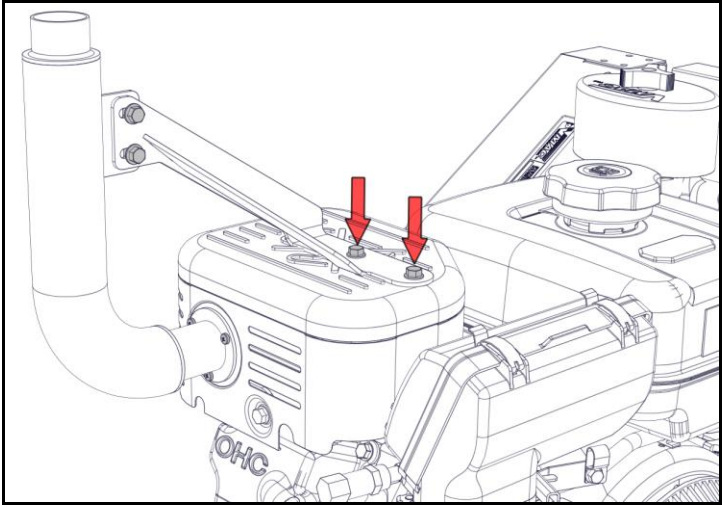

Figure 8 – Top bolts
- Torque the top bracket plate bolts to specification (Figure 8).